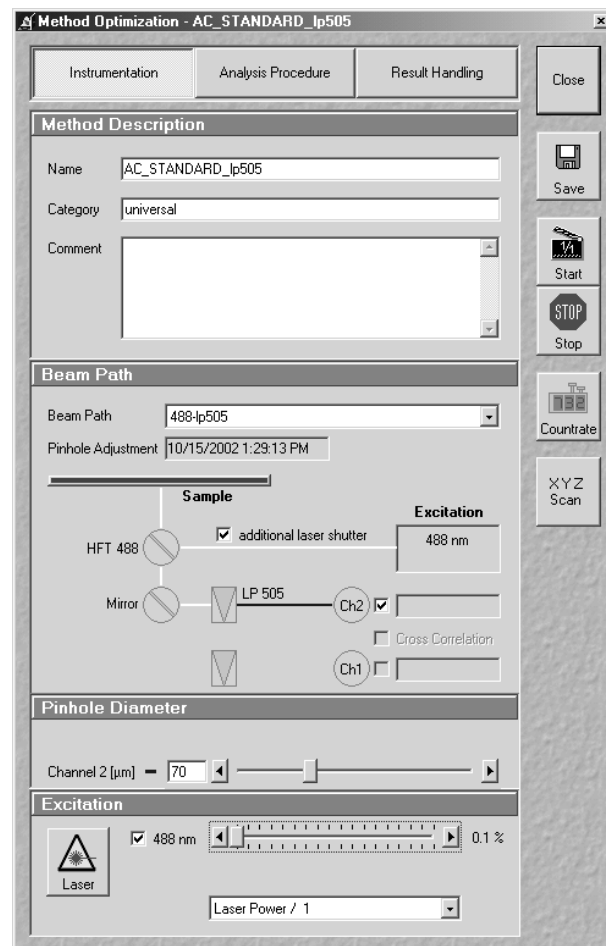

Fig. 3-43 Method Optimization ... window (Instrumentation subwindow)
(3) Instrumentation
- Click on the **Instrumentation** button on top of the **Method Optimization ...** window (Fig. 3-43).